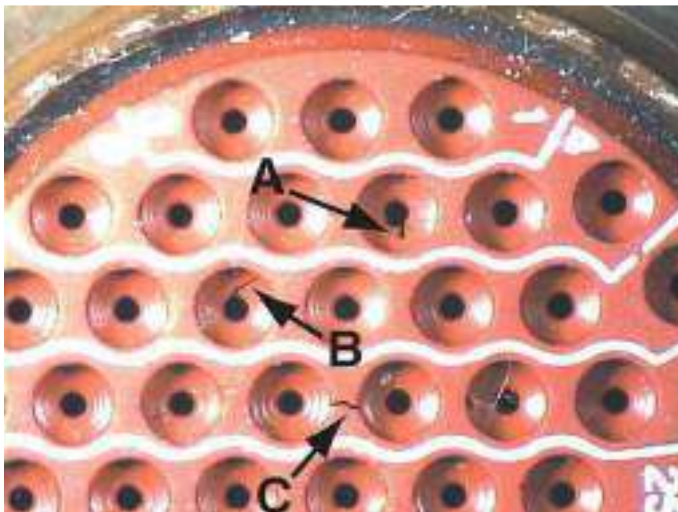

Figure 2
- (3) Material is missing with no damage to dielectric between cups (see A in Figure 2).
- (4) Cut, fracture or tear that does not extend beyond cup diameter (see B in Figure 2).
- (5) Cut, fracture or tear in dielectric face does not extend into the cup area (see C in Figure 2).